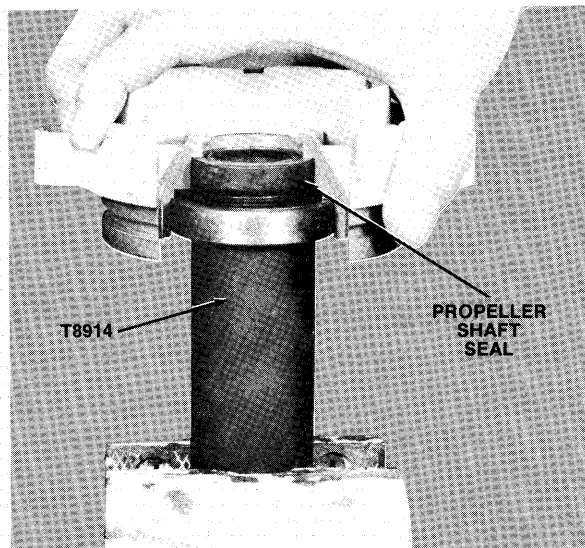

Figure 18—Installing Seal Remover
- Remove propeller shaft seal by threading seal remover (Special Tool T8914) in seal as shown in figure 18.